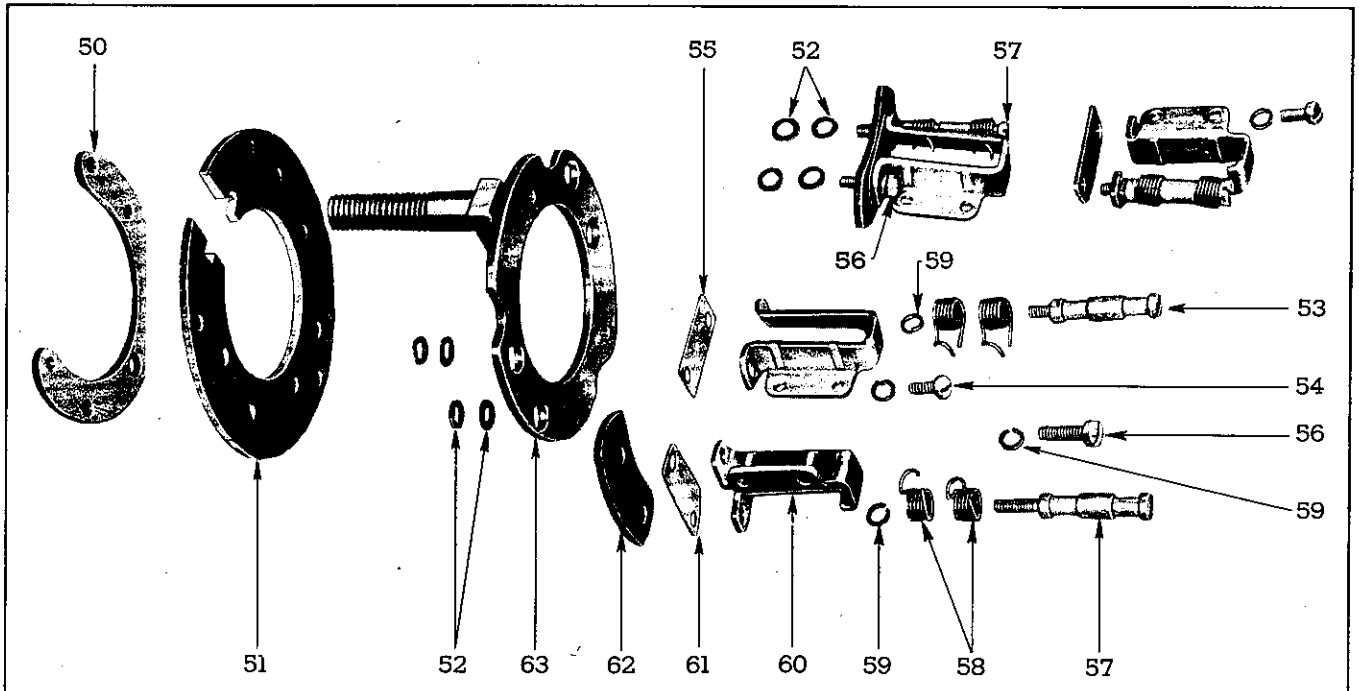

Fig. 18—Brush Plate Details and Relative Location of Parts.
1. For two insulated brushes unscrew two brush holder screws (56) and (57), (two long and two short). Remove two brush springs (58) from the two long screws (57) also four lock washers (59), two brush holders (60), two brush plates (61), and two insulating plates (62) can also be removed. (See Fig. 18.)
2. For two ground brushes unscrew four brush holder screws (53) and (54) (two long and two short). Remove four brush springs (58) from the two long screws (57), also four lock washers (59). Two brush holders (60), two brush plates (55) may now be removed.
3. Remove brush plate and terminal stud (63) and pull out eight brush holder screw insulating bushing washers (52). These washers are for the four insulated brush holder screws (56) and (57).
4. Separate brush holder screw support plate (50) from brush plate insulating plate (51).